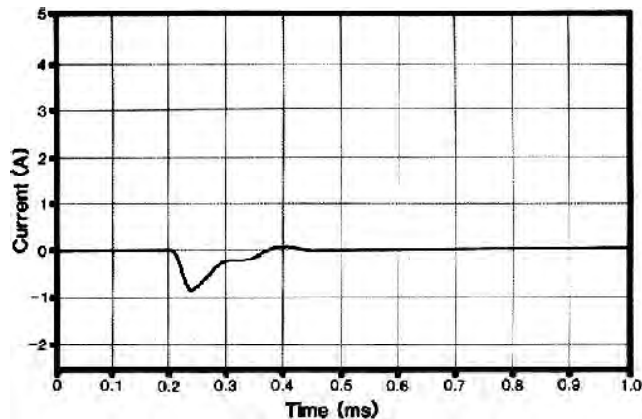

FIGURE 54. Dry Condition Current Output.
**Shock Intensity:** Current output for dry and wet conditions are shown in FIGURES 54 and 55.